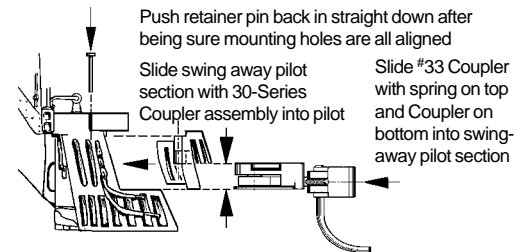

Fig.1
1. For the pilot: Remove swing-away pilot section by pushing retaining pin out of top of pilot deck, see Fig.1. The swing-away pilot section will have to be modified by cutting away a section to provide room for a #33 Coupler assembly. Care must be exercised to assure that the 30-Series Draft Gear Box is exactly centered in the swing-away pilot section. Also when trimming this section be careful not to break off pilot bars. The top inside of the pilot opening will need to be filed smooth and flat to allow 30-Series Draft Gear Box to slide in. Fit by trial and error, be sure there is no binding.